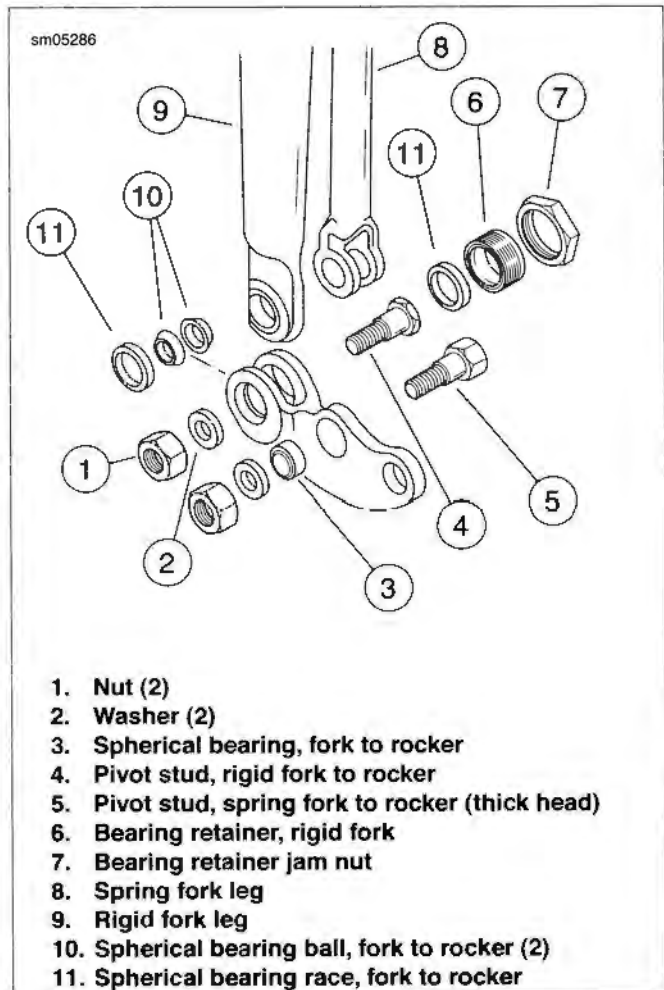

Figure 1-51. Fork Rocker
4. See Figure 1-51. Loosen, but do not remove, the bearing retainer jam nut (7) and bearing retainer (6) on each rocker.
5. Remove acorn nut (1) and washer (2) from each spring fork to rocker pivot stud (thick head) (5). Do not remove the pivot stud from the rocker at this time.
6. Tighten bearing retainers (6) to 25-35 in-lbs (2.8-4.0 Nm).
7. Hold the bearing retainer in place with a hex driver while tightening jam nut (7) to 95-105 ft-lbs (128.8-142.4 Nm).
8. Remove the pivot studs (5) from the spring fork (8).
11. See Figure 1-51. Attach the spring fork legs (8) to the rockers by installing the pivot studs (5) (thick head), from the outboard side, with washers (2) and nuts (1). Tighten nuts to 45-50 ft-lbs (61.0-67.8 Nm).